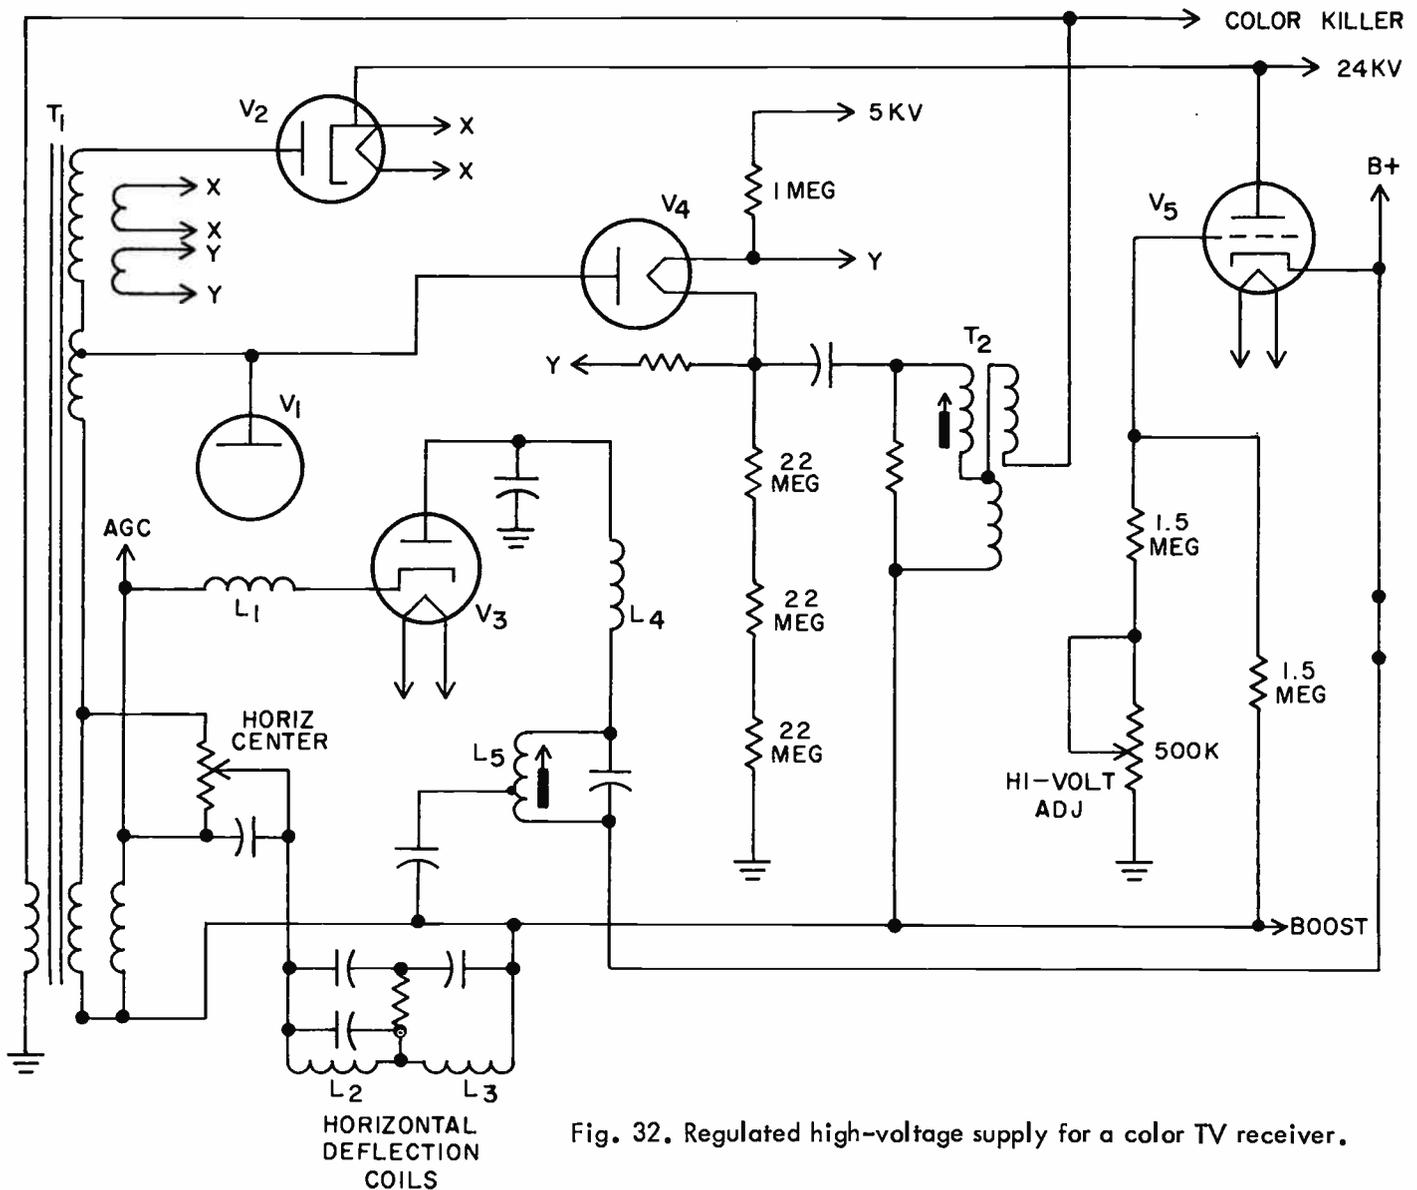

Fig. 32. Regulated high-voltage supply for a color TV receiver.
A typical high-voltage power supply using a regulator tube is shown in Fig. 32. V_1 is the horizontal output tube and T_1 the horizontal output transformer. V_2 is the high-voltage rectifier tube, V_3 the damper, V_4 the focus rectifier tube and V_5 the shunt high-voltage regulator tube.
- (v) Why is the focus voltage taken from the flyback supply in Fig. 32 rather than from the low-voltage power supply?
- (w) How is the high-voltage output in the circuit shown in Fig. 32 adjusted to the correct value?
- (y) What method, other than those used in Figs. 32 and 33, can be used to regulate the high-voltage in a color TV receiver?